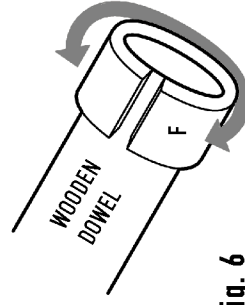
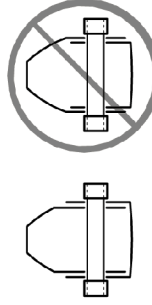

Fig. 6
Fig. 7
- 11) Cut out and glue one F piece to the end of the wooden dowel (see Fig. 6). Let the glue dry, then put the dowel through the claw and jaw holes marked C. Make sure that jaw sits on outside of claw (see Fig. 7).